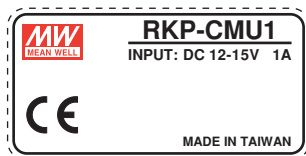

Figure 1-1 Safety Label of RKP-CMU1
- ⊙Please refer to the safety label on top of each unit before operating (Figure 1-1~1-3).